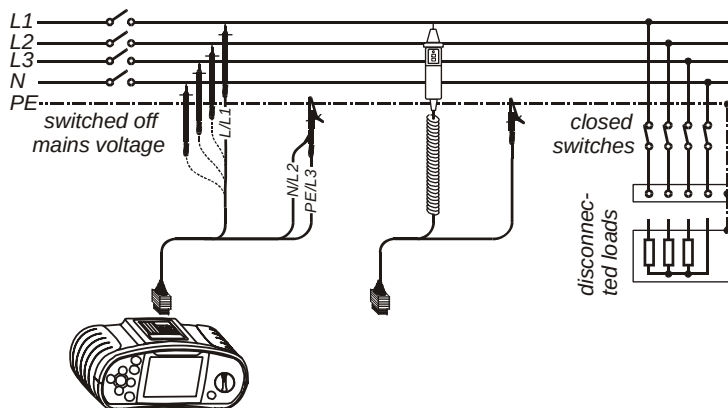

Figure 5.2: Connection of universal test cable and tip commander
Step 3 Ensure that no voltages are present on the item for testing. Connect the test leads to the EasiPLUS instrument. Connect the test cables to the item under test. (see figure 5.2) to perform insulation resistance measurement.